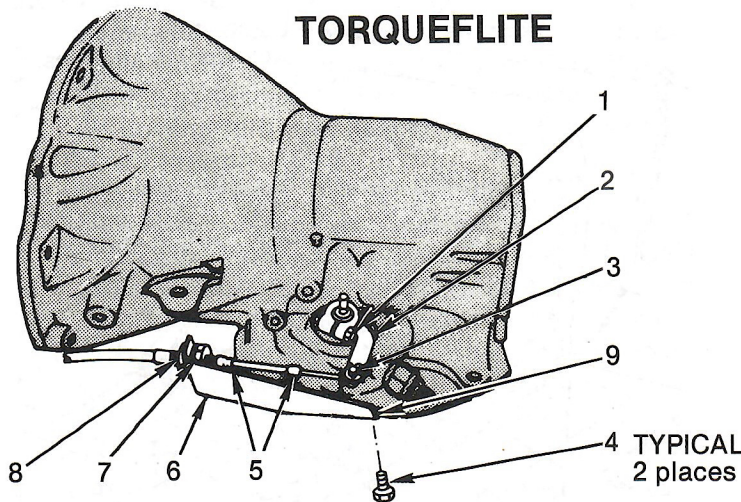

FIGURE 5
discard stock shift lever and stock shift linkage. Install B&M selector lever (2) in position and tighten pinch bolt (1) securely. (See Fig. 5) Make sure lever is not pushed down so far as to touch the transmission case. This will cause the lever to bind on the case. The lever should travel smoothly from front to back with a positive click in each gear position. Install stock throttle lever in position on small diameter shaft as removed and tighten pinch bolt securely. Throttle lever must operate smoothly.
Step 10. Remove the two transmission oil pan bolts (4) directly below the shift lever. Install cable bracket (6) in position (See Fig. 5) with two spacers (9) between the pan and bracket. (If your transmission is equipped with a cast aluminum oil pan these spacers (9) can be omitted) install the two pan bolts as removed and tighten to 12-13 ft-lbs. **Do not overtighten as this can damage pan gasket.**